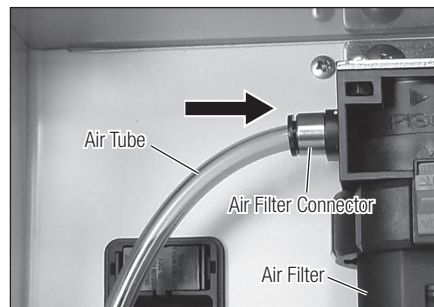

Fig. 1
- 1) Securely insert the Air Tube into the Air Filter Connector at the back of the Unit (Fig. 1).